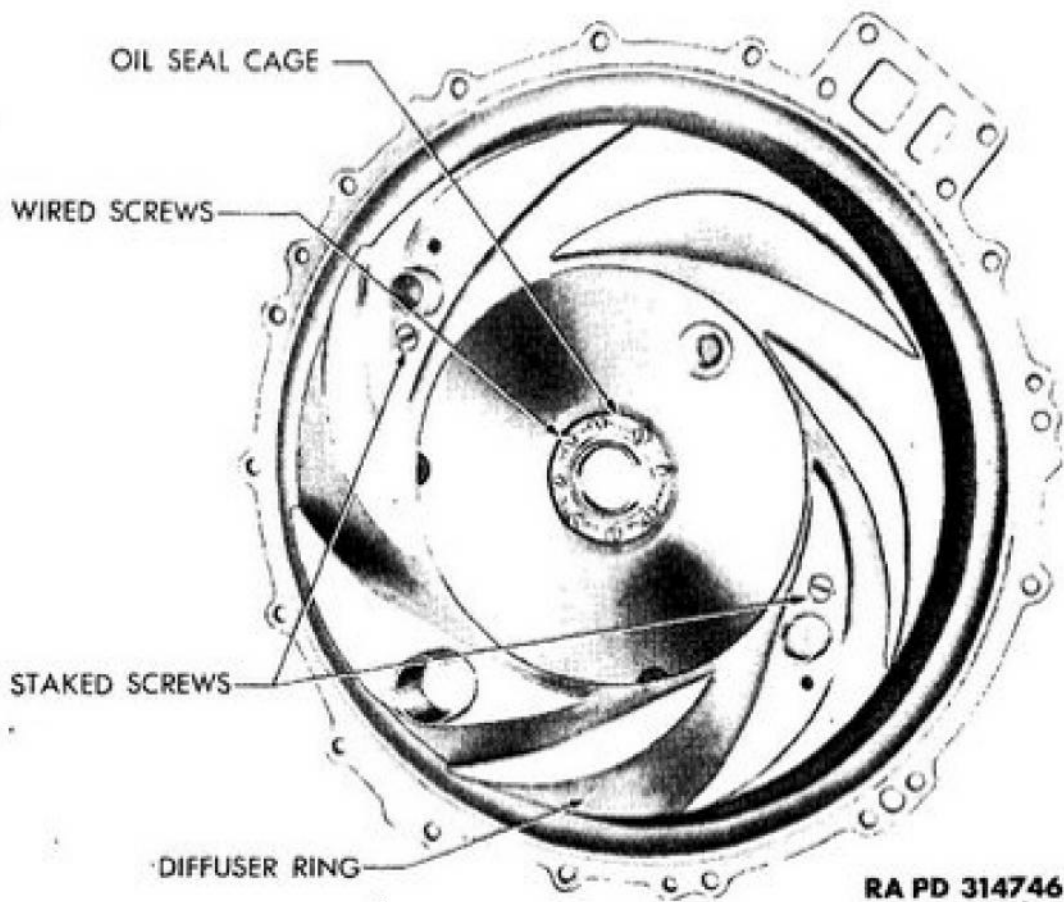

Figure 160 — Staked Screws for Diffuser Ring
h. Remove Diffuser Ring. Remove two screws that hold diffuser ring to diffuser section (fig. 160). Slide ring up and off bushings.
ing screws. Wire them together in groups of three, three, and two (fig. 160).